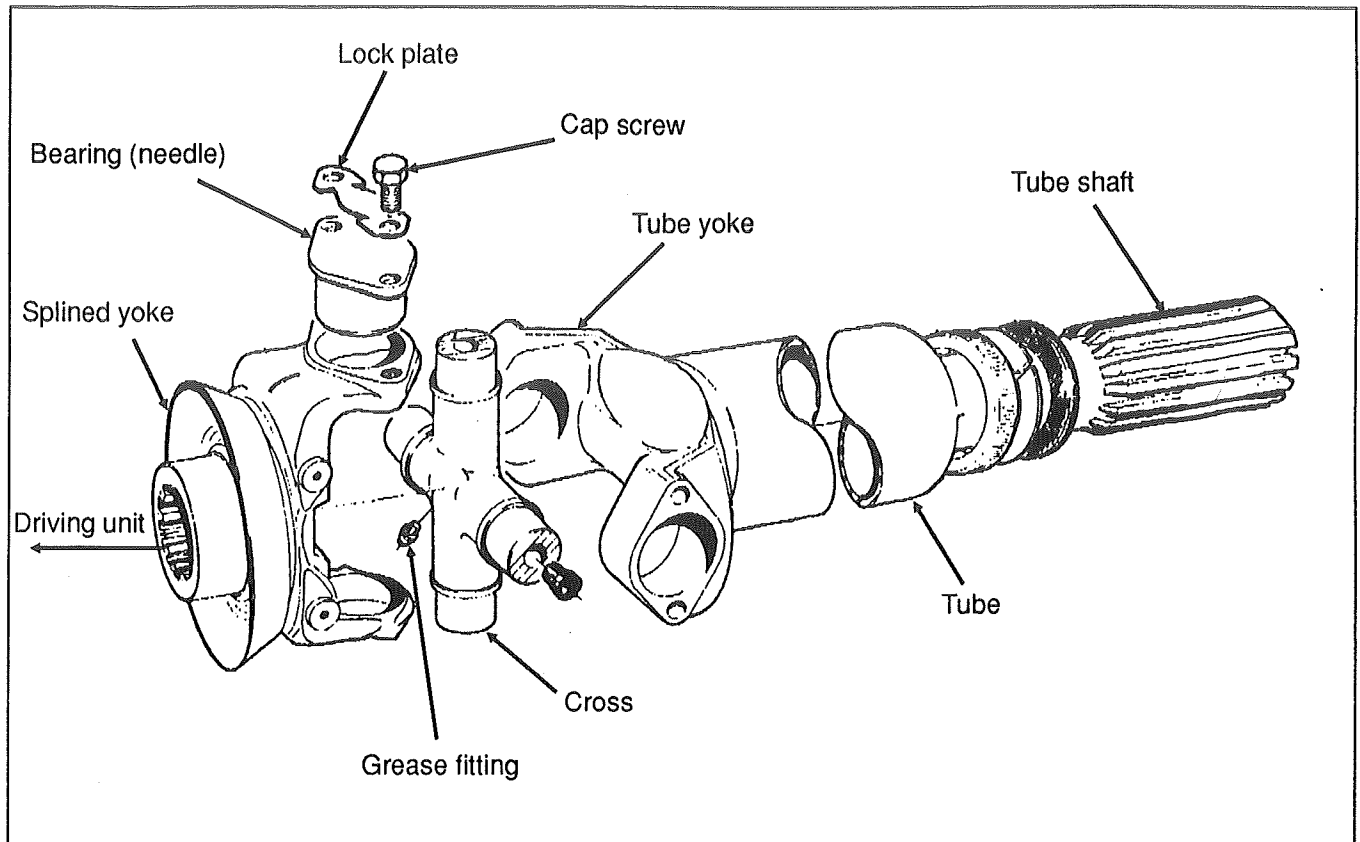

FIG. 15
1. Disconnect slip yoke from splined yoke at differential and transmission or at both differential extremities (between rear/rear and forward/rear differentials) by removing the two (2) bearings from the splined yoke. To proceed, remove the two (2) bolts retaining the bearing at each end of the splined yoke, as outlined under heading "Disassembly of universal joint", later in this section. Refer to figure 15 for details.